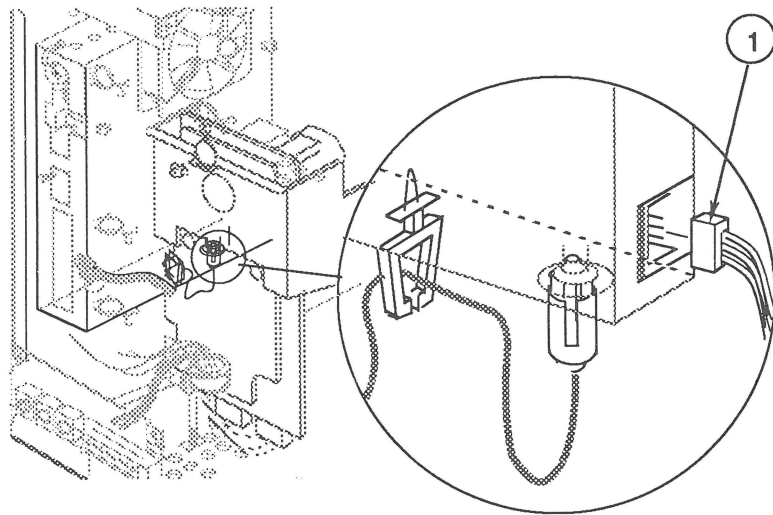

FIGURE 46
6. Disconnect the small LED connector (Figure 46, #1) from the bottom of the video board.